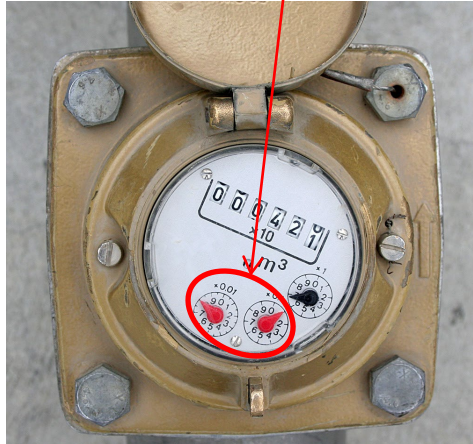

Figure 2 – Metered standpipe reading dials
- The dial for the 65 mm metered standpipe shown below in Figure 2 has provision for six digits, the numbers representing tens of cubic metres (m³) or kilolitres (kL).